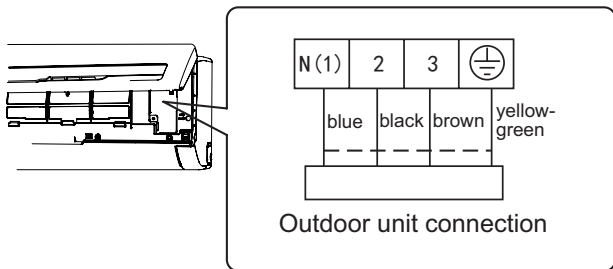

Fig.13
- (3) Remove the wire clip; connect the power connection wire to the wiring terminal ; tighten the screw and then fix the power connection wire with wire clip.(As show in Fig.13)